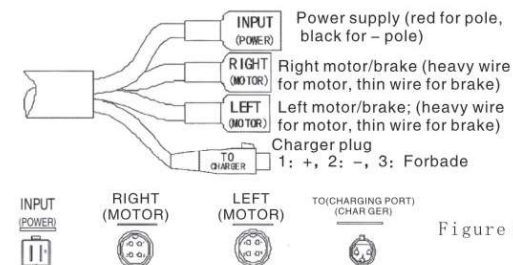

Figure 5
- (8) Observe the cables located in the lower part of the vehicle; if you find the cables hanging to the ground, please bundle them with the attached cable ties and keep them off the ground. Have a certain height (see Figure 5).